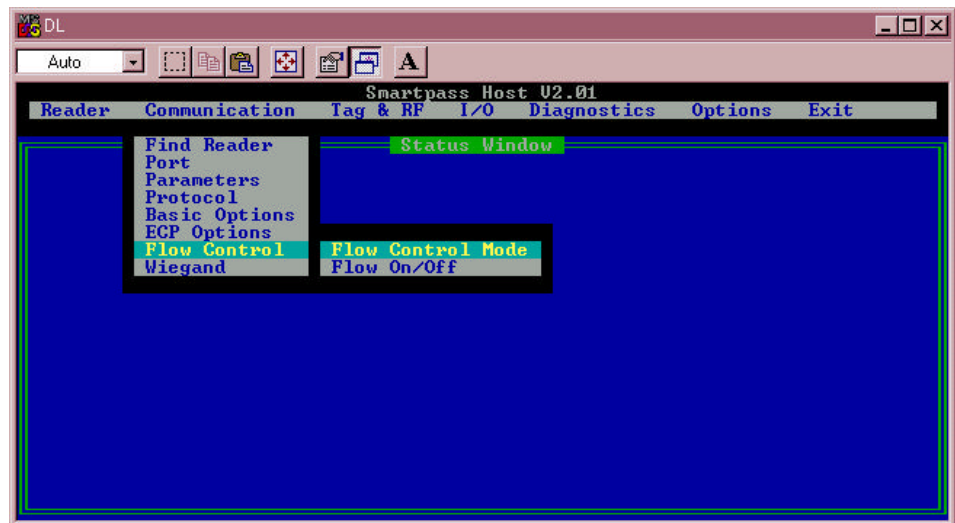

Figure 4-27 Port Configuration Parameters Submenu
1. Select the **Communications** drop-down menu and click the **Flow Control** command. Figure 4-27 illustrates the two options for flow control.